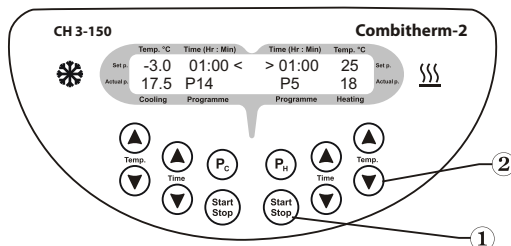
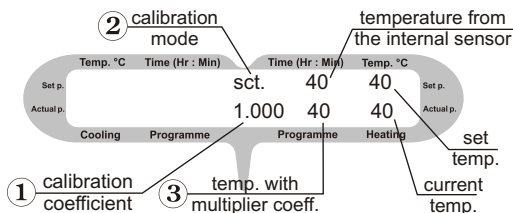
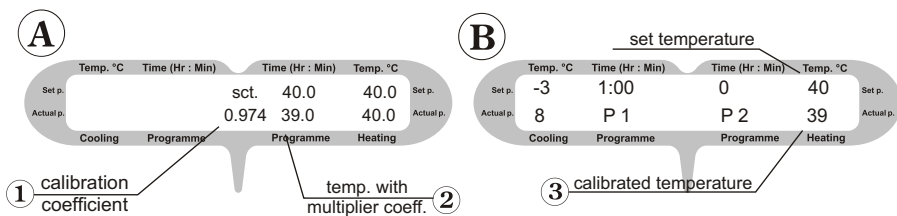

Fig.2 Control panel in operation mode
Fig.3 Control panel in calibration mode
Fig.4 Control panel in calibration and operation mode
- 5.3. Hold the **Start Stop** key (fig. 2/1) pressed for 8 sec to enter the calibration coefficient. The calibration coefficient will be shown on the display (fig. 3/1).
- 5.4. Set 1.000 value using the ▲ and ▼ keys (fig. 2/2) to restore the factory settings as shown on fig. 3/1.
- 5.10. Hold the **Start Stop** key (fig. 2/1) pressed for 8 sec. to activate the calibration mode. Display will show the following parameters as shown on fig.4.
- 5.11. Use the Temperature with multiplier coefficient readings (fig. 4 A/2) to set the new temperature value.
Use the ▲ and ▼ keys (Fig. 2/2) to change the calibration coefficient (in the 0.936 to 1.063 range; increment is 0.001) (fig.3/1) so, that the new temperature value (fig.4 A/2) corresponds to the independent sensor temperature. In our example the calibration coefficient will be 0.974 (fig.4 A/1).
- 5.12. After calibration is completed, press the **Start Stop** key (fig. 2/1) once to save the changes and exit the calibration mode.
- 5.13. The display will show calibrated temperature as shown on fig. 4 B/3 and the unit will continue temperature stabilization according to the previously set temperature.